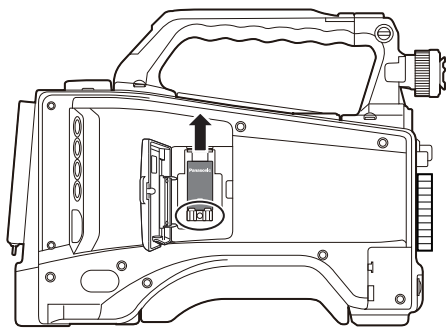

Fig. 3
- 3** Attach the wireless module securely to the <USB2.0> terminal (sub-host) and secure with the screw that has been removed in step 2, and close the door (Fig. 3).